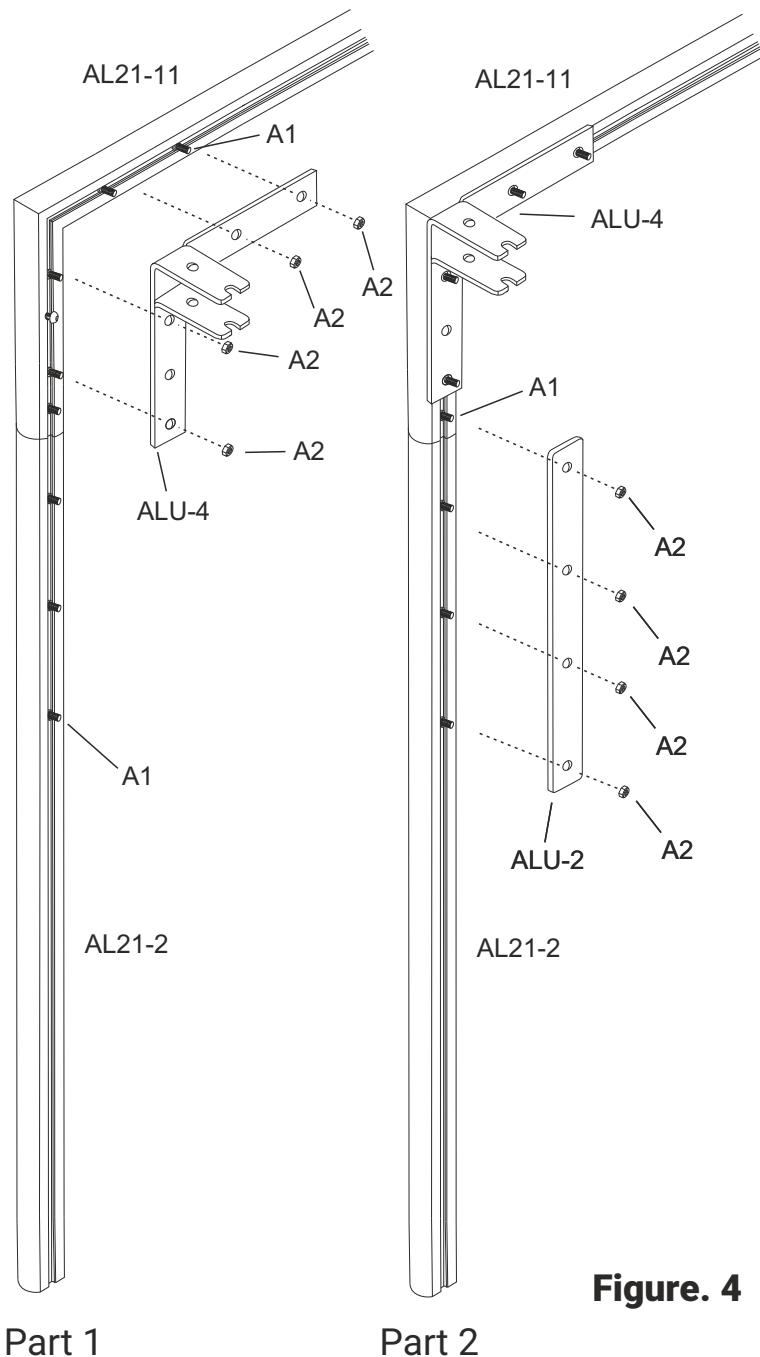

Figure. 4
STEP 4 - Fixing Crossbar to uprights (Figure 4)
Part 1: Place the Right corner bracket (ALU-4) onto the corner joint. Ensure the bolts (A1) are positioned correctly and slot through the holes match the drawing shown in (Figure 4, Part 2). Secure the bracket in place with the nuts (A2)
Part 2: Place the straight bracket (ALU-2) over the joint between (AL21-2) and (AL21-11). Ensure the bolts (A1) are positioned correctly and slot through the holes match the drawing shown in (Figure 4, Part 1). Secure the bracket in place with the nuts (A2).